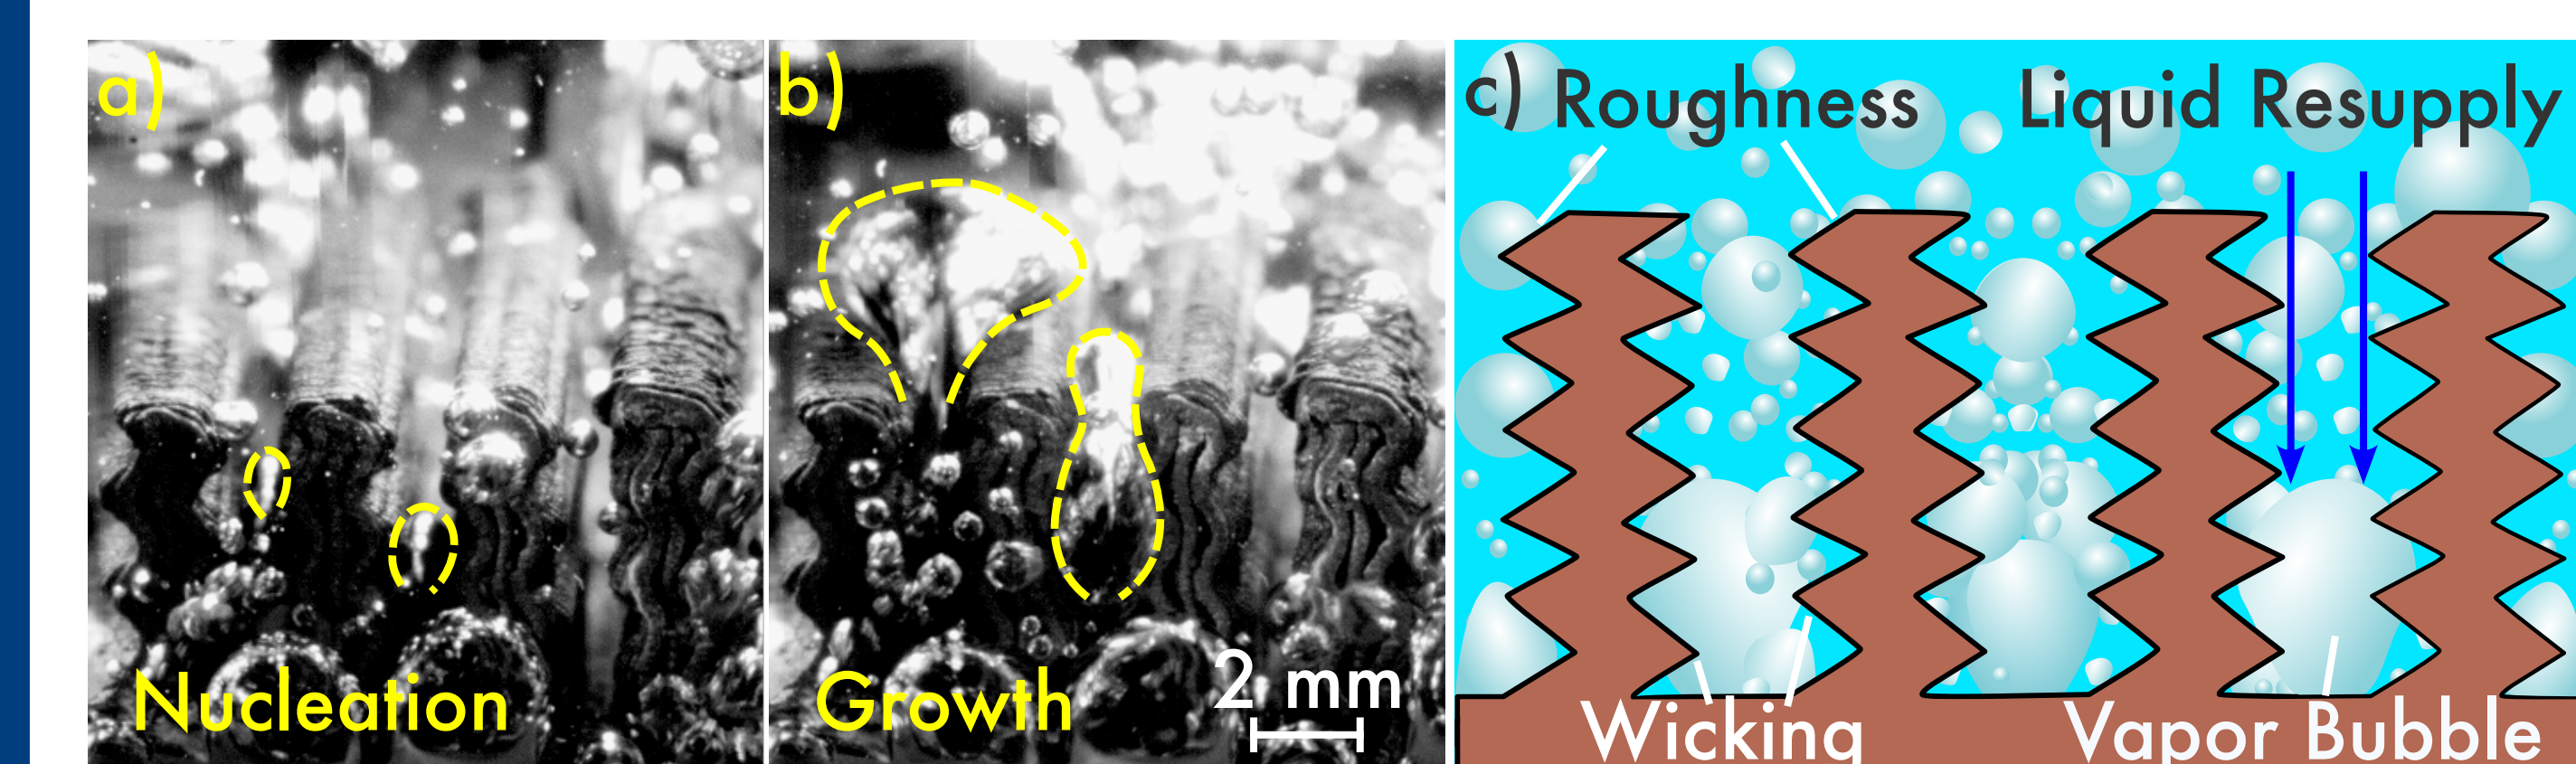

Figure 9. Bubble Dynamics on Vertical Wave 3D-Printed Surface: a) Nucleation, b) Growth, c) Schematic of Mechanisms Across All Fluids.
- High-speed visuals (Fig. 9) revealed bubble dynamics & liquid resupply on vertical wave, proving its superiority.